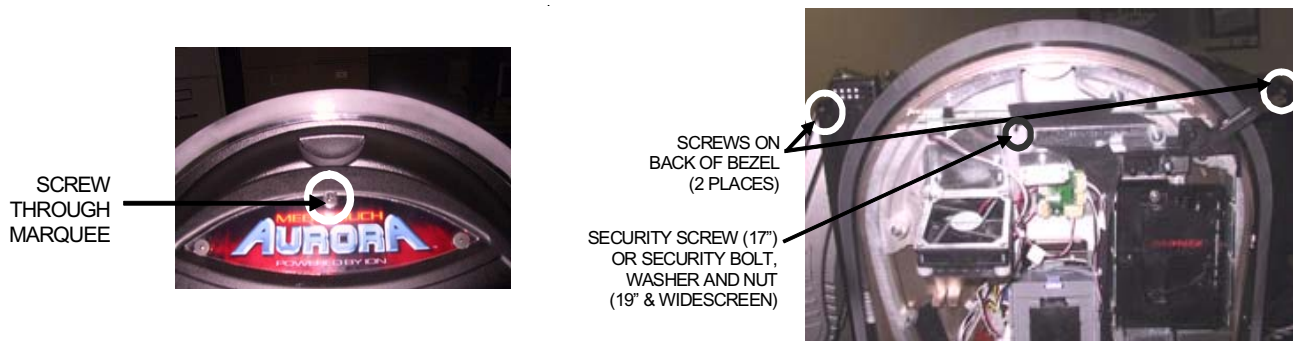

FIGURE 4 - SCREWS ON FRONT AND BACK OF BEZEL
7. Place something in front of the game to brace the bezel once the strain relief cord is undone, then remove the screw at the center of the marquee bezel and the 2 screws on the back of the bezel. For 17" games, remove the security screw inside the CPU section; for 19" and Widescreen games, remove the nut and washer securing the security bolt inside the CPU section. See Figure 4.